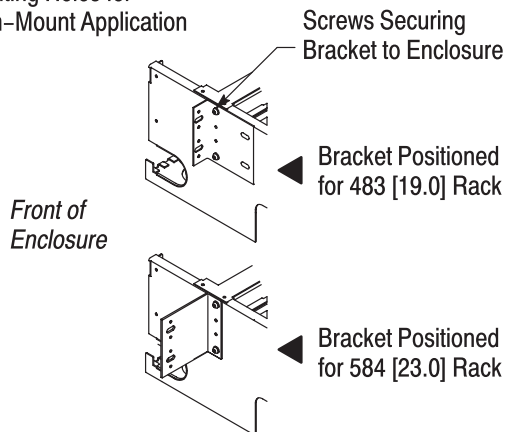

Figure 2
3. The enclosure is assembled for mounting in a 483 [19.0] rack; using the pan head screws, mount the enclosure in the rack. See Figure 2.
For a 584 [23.0] rack, remove the screws securing the brackets to the enclosure. Turn the brackets so that the long leg of the "L" is protruding, and secure the brackets to the enclosure using the screws. Using the pan head screws, mount the enclosure in the rack. See Figure 2.